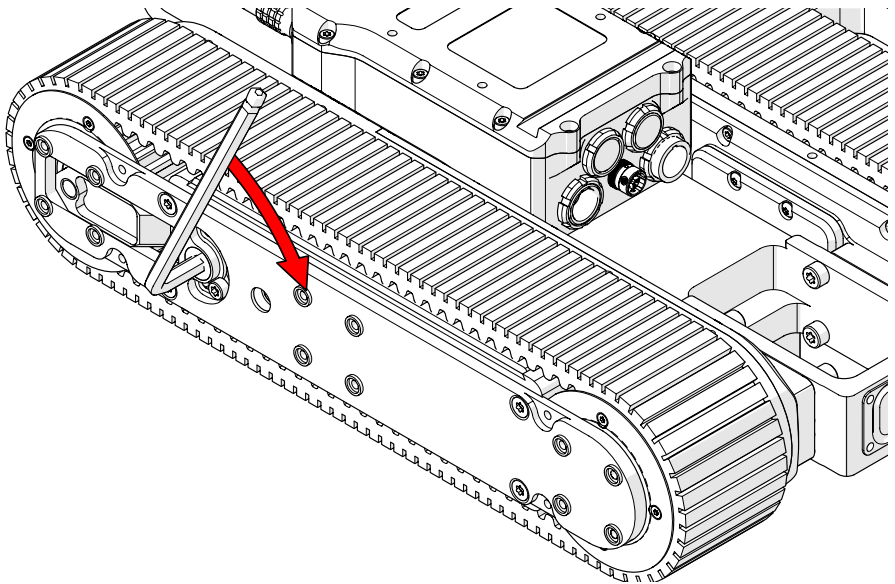

Fig. 61 - Tighten track with 6 mm hex tool
2. Using a 6 mm hex tool, tighten the belt gently until it is almost flat (Fig. 61).